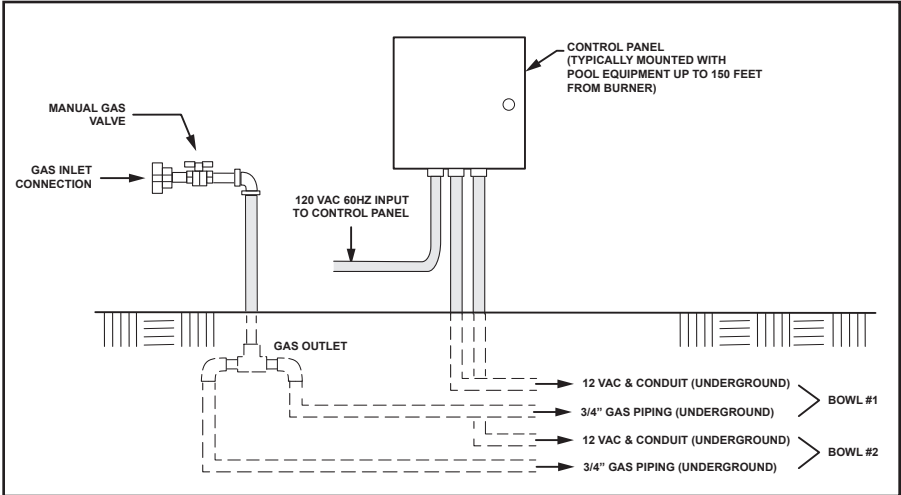
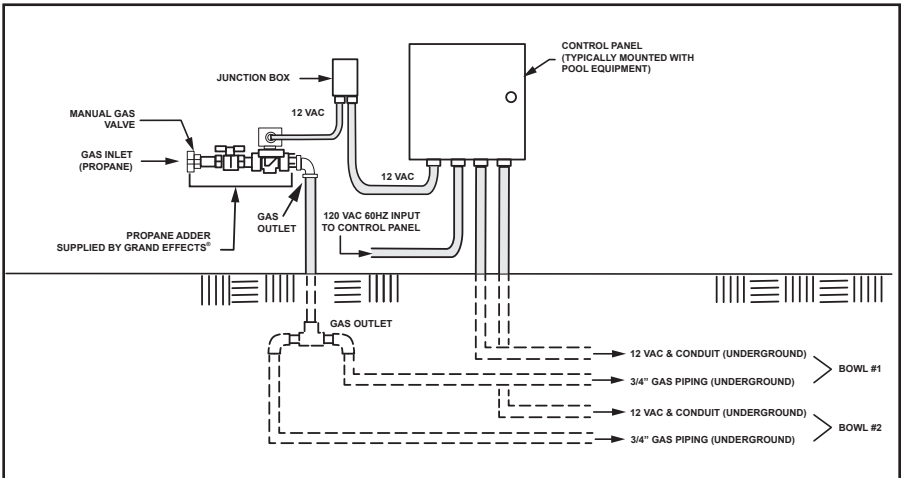
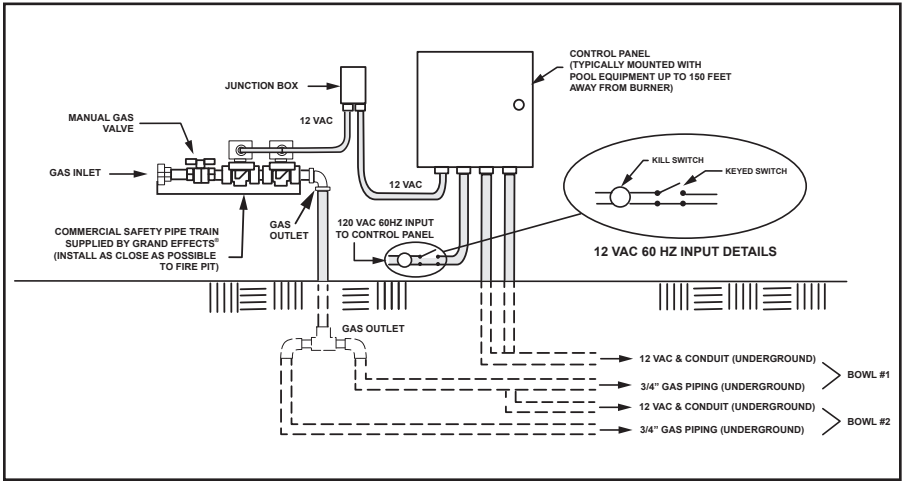

Figure 3. Natural Gas
Figure 4. Propane Gas
Figure 5. Commercial Installation
1. Install the control panel and gas piping as shown in Figure 3: Natural Gas, Figure 4: Propane Gas, or Figure 5: Commercial Installation. Gas lines must be clean and free from any dirt, debris, or contamination.
Note: Propane piping is different than natural gas piping (shown in Figure 3 and Figure 4).
- The gas piping must be installed underground between the control panel and each fire or water bowl, as shown in Figures 3 and 4.